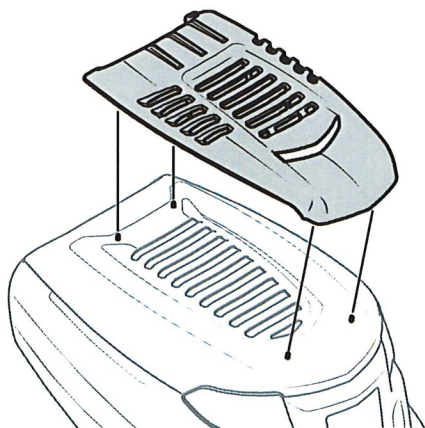

Figure 6
3. Snap the hood topper into place using the hood as your guide. See Figure 6.